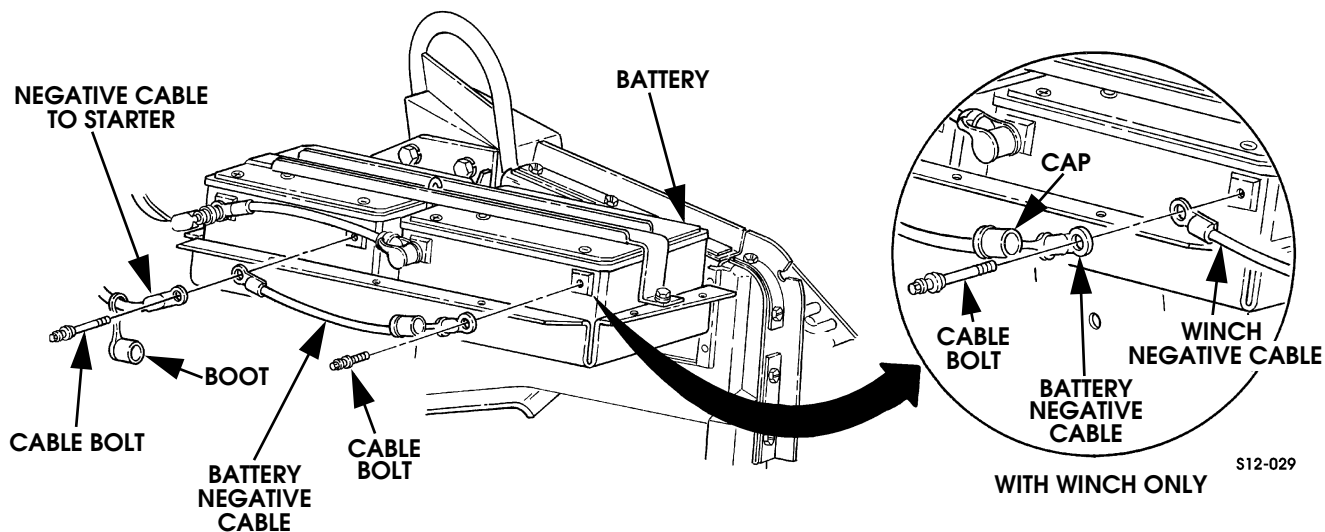

Figure 12-27: Battery Negative Cable Connections
1. Remove caps from battery negative cable (Figure 12-27).
3. Disconnect winch negative cable, if equipped (Figure 12-27).